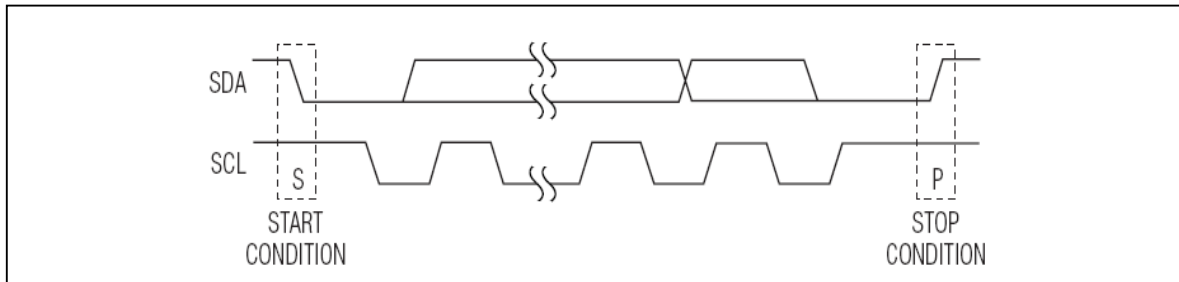

Figure 2 START and STOP Conditions
SDA operates as both an input and an open-drain output. A pull up resistor, typically 4.7k Ω , is required on SDA. SCL operates only as an input. A pull up resistor, typically 4.7k Ω , is required on SCL if there are multiple masters on the 2-wire interface, or if the master in a single-master system has an open-drain SCL output. Each transmission consists of a START condition sent by a master, followed by the IS311O7325's 7-bit slave addresses plus R/W bits, 1 or more data bytes, and finally a STOP condition (see Figure 2).
Both SCL and SDA remain high when the interface is not busy. A master signals the beginning of a transmission with a START (S) condition by transitioning SDA from high to low while SCL is high. When the master has finished communicating with the slave, the master issues a STOP (P) condition by transitioning SDA from low to high while SCL is high. The bus is then free for another transmission (see Figure 2)